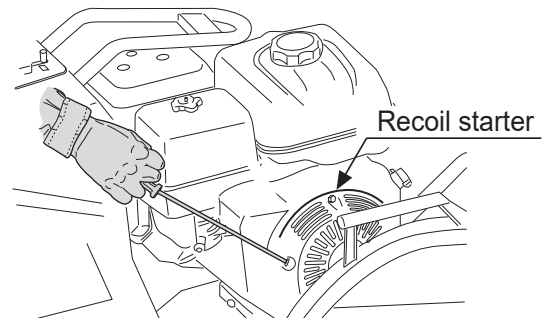

Fig.20
5. Hold the recoil starter grip, and pull it a little. You will feel a slight resistance. Then, pull it hard to run the engine. be careful not to pull too hard, or the rope might break or come off. Allow the starter rope to slowly move back into the case while keeping the grip grabbed. (Fig.20)